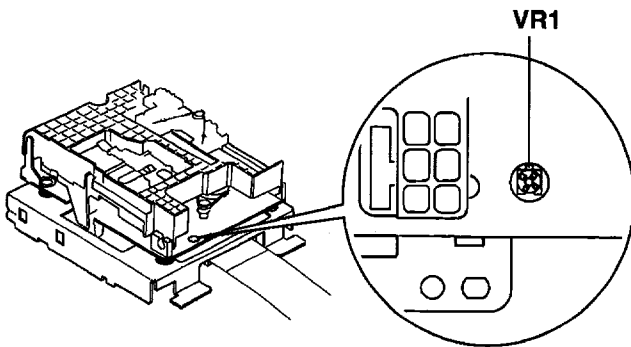

Fig. 17-5.
4. Confirm that the reading of the laser power meter is within the specified range. If it is not within the specified range, adjust by turning **VR1**. Refer to Fig. 17-5.
6. Confirm that the reading of the laser power meter is within the specified range. If it is not within the specified range, adjust by turning **VR1**. Refer to Fig. 17-5.